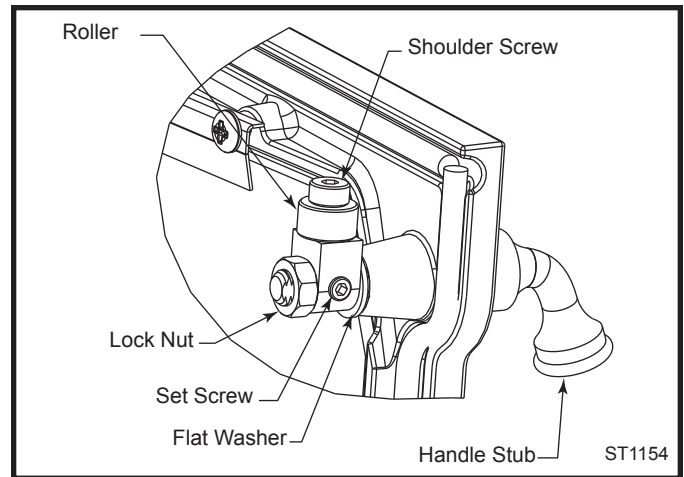

Fig. 43 Rotate pawl and/or remove flat washer to adjust latch.
1. Remove and retain the lock nut with a 9/16" wrench. (Fig. 43)